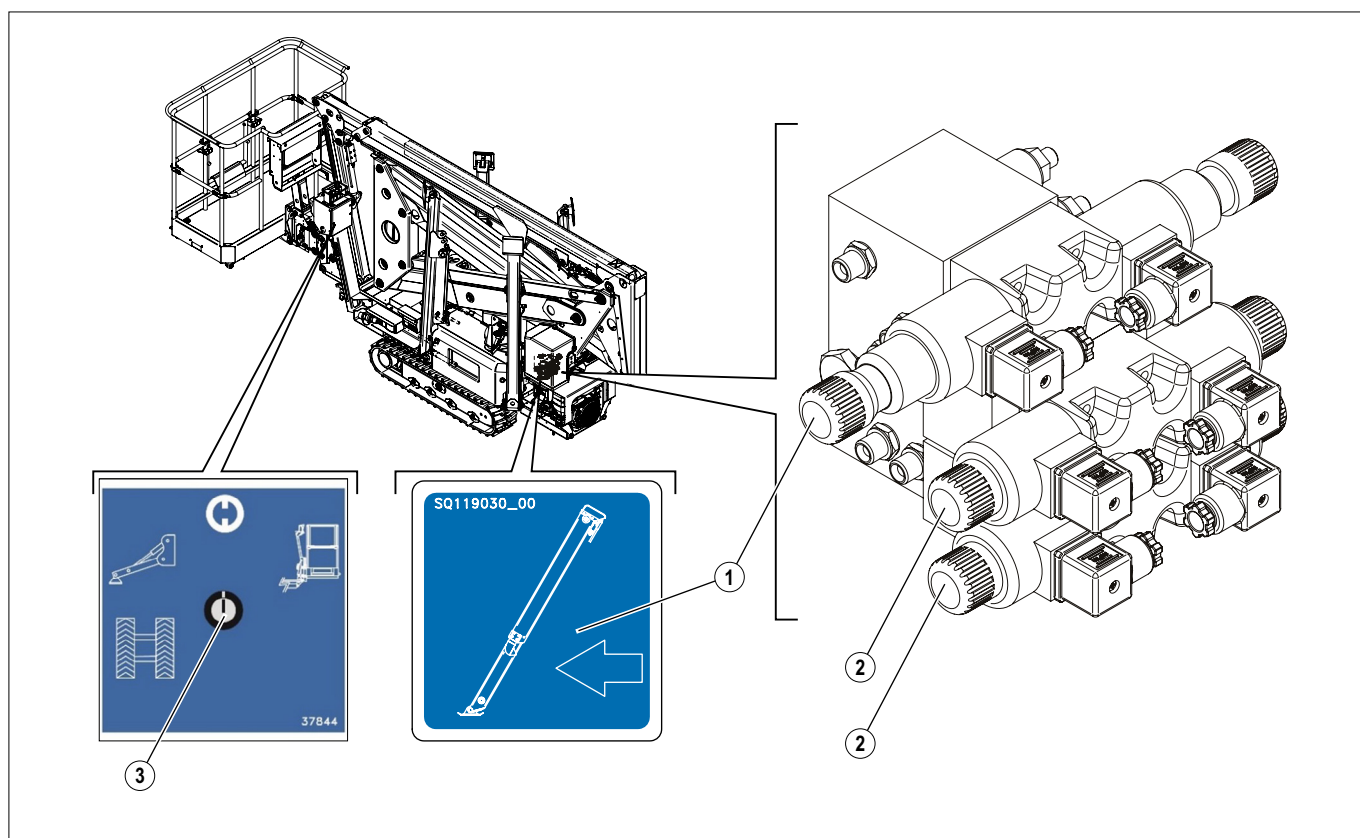

FIG. 39 (Manual stabilisation and traction recovery)
- 2) Place the work mode selector in the central position. (FIG. 39 - Ref. 3).
- 3) Operate the diverter valve in the stabiliser controls (FIG. 39 - Ref. 1).
- 4) Use the two traction valves to move in the required direction (FIG. 39 - Ref. 2).